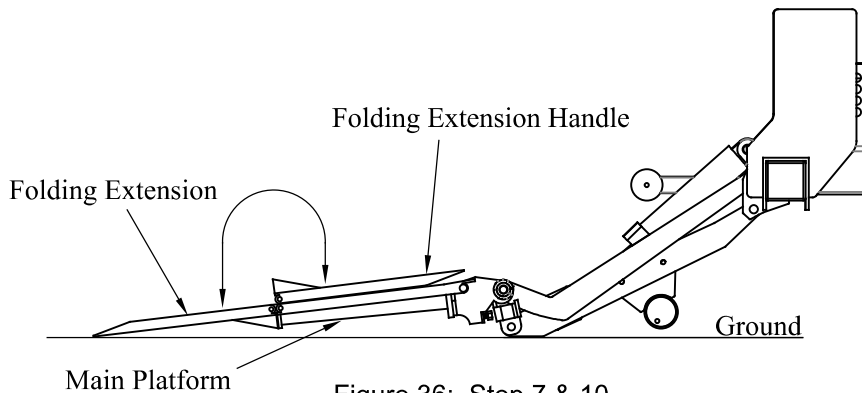

Figure 36: Step 7 & 10.
- Stand off to the side and **unfold** the platform folding extension (Figure 36).
- To close the platform, stand to the side of the platform, not under or behind the platform. With the liftgate lowered, **close** and **lock** the platform cart stops, if so equipped, then **fold** the folding extension by lifting on the handle (Figure 36).